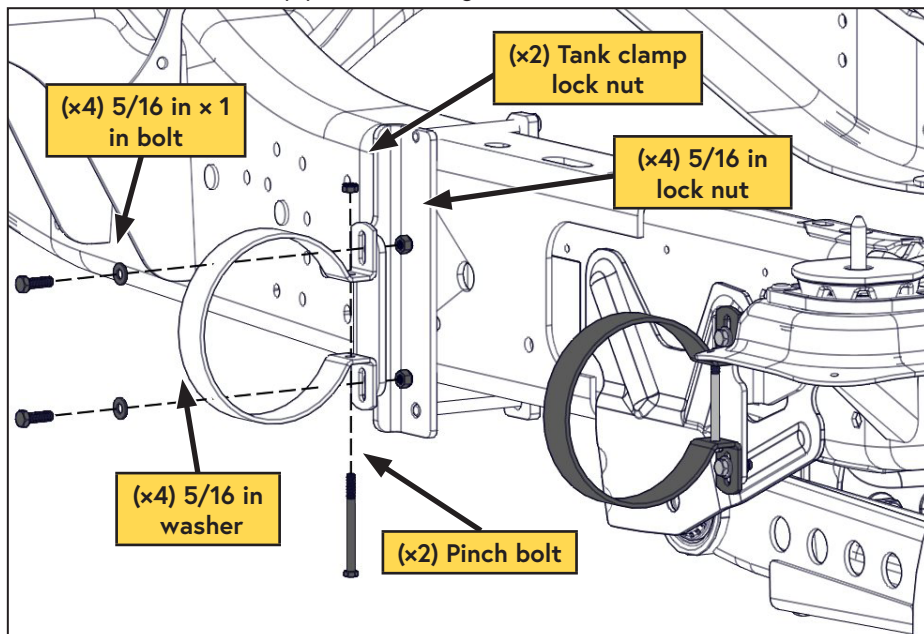

Figure 46 — Install AOST
- ☐ Remove the tank clamp pinch bolts (Figure 46).
- Install the tank onto the tank mounts (Figure 46)*: